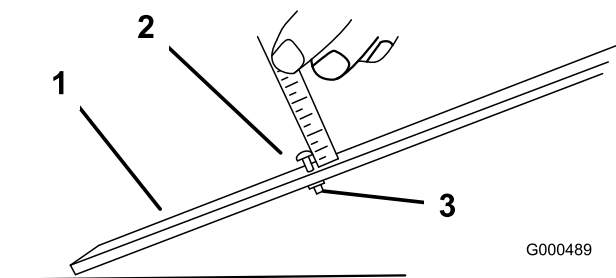

Figure 16
2. Loosen the nut on the gauge bar and set the adjusting screw to the desired height-of-cut (Figure 16). The distance between the bottom of the screw head and the face of bar is the height-of-cut.